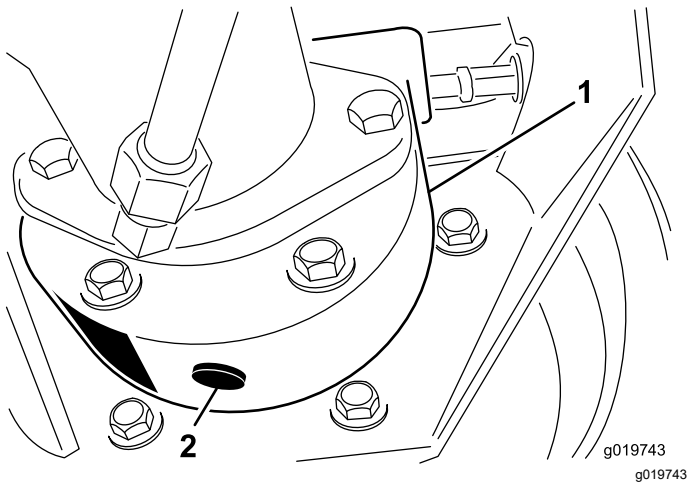

Figure 87
3. Place a drain pan under the brake housing, remove the drain plug and allow the oil to drain (Figure 87).